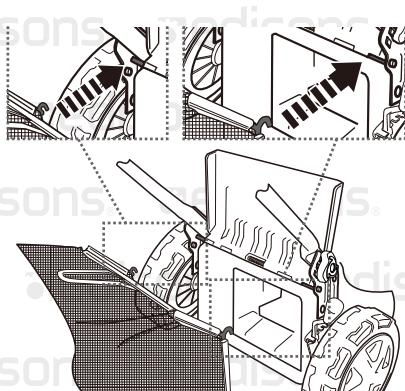

Fig. 4
8. Open the deflector guard (24) hold it in position and align the hooks on the grass catcher (25) with the support to hang it onto it (Fig. 4).